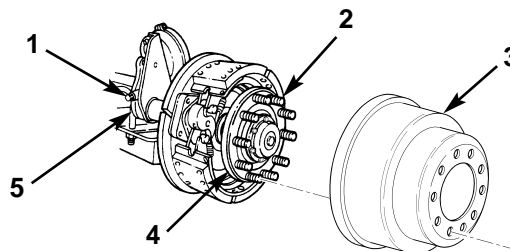

Figure 20. Removing Front Brake Drum.
1. Depress and rotate screw (figure 20, item 1) on slack adjuster (figure 20, item 5) until brake drum (figure 20, item 3) can be rotated freely at both ends of front axle.
2. Carefully slide brake drum (figure 20, item 3) off wheel studs (figure 20, item 2) and remove from hub (figure 20, item 4) at both ends of front axle. Discard both front brake drums (figure 20, item 3).